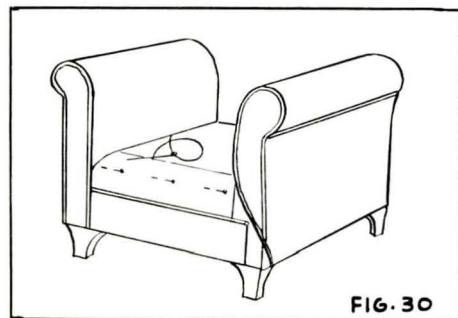

FIG. 30
1. Front seat base section is fitted to chair and the top stitched to chair seat with curved needle. The tabs which extend on the lower front piece to front arm section may be caught by either sewing or tacking. (Fig. 30)